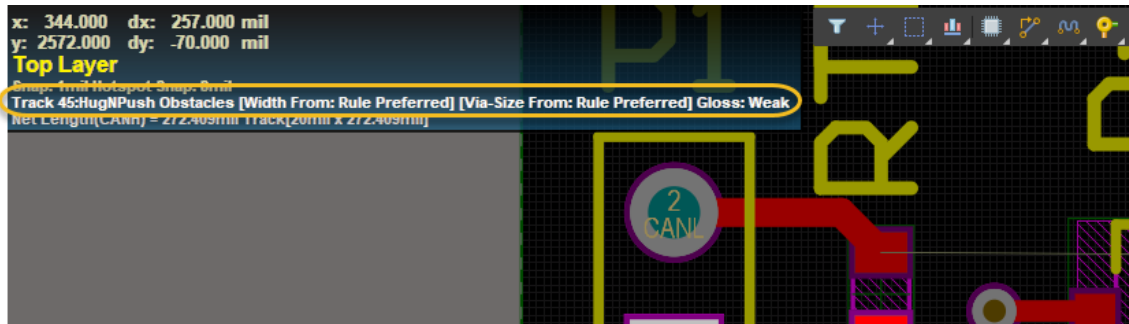

Figure 11. Conflict Resolution modes displayed in the HUD
- f) Experiment with a few of the different routing modes, *Walkaround*, *HugNPush*, *Push*, *Ignore Obstacles* and *Stop at First Obstacle*. The current routing resolution mode is displayed in the *Status Bar* and the *Heads-Up Display* as shown in Figure 11.